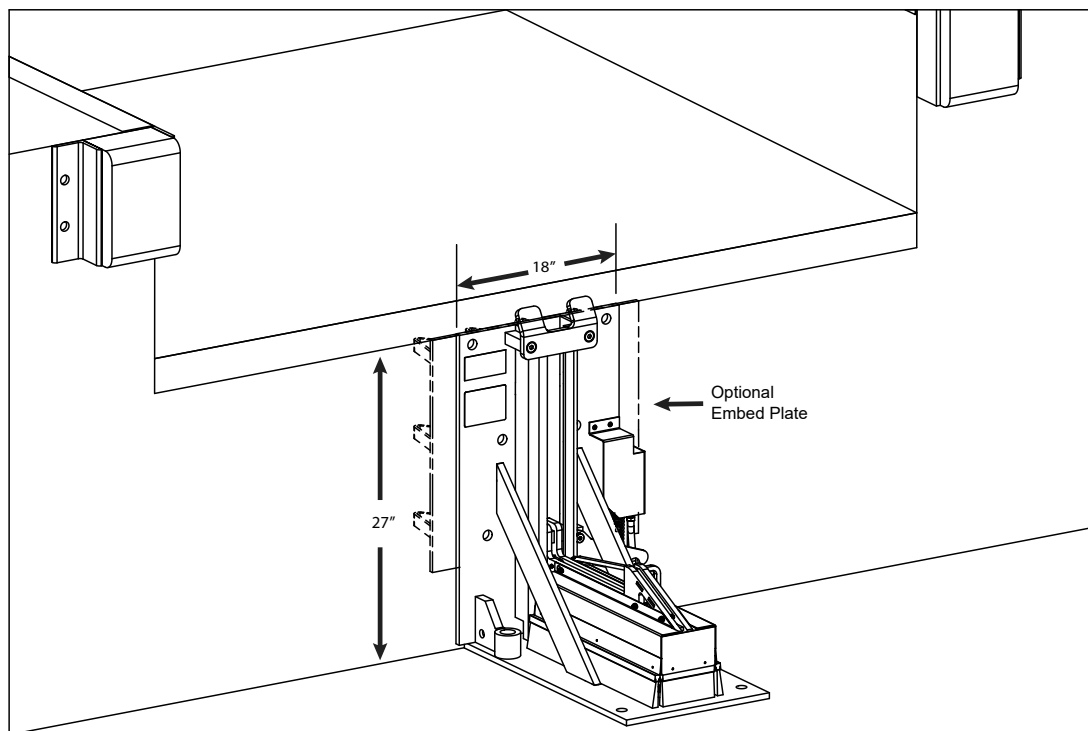

Figure 7
If optional embed plate is present, weld three sides of PowerStop back plate to the embed mounting plate with ten (10) 4" long, 1/4" fillet welds. See Figure 7.